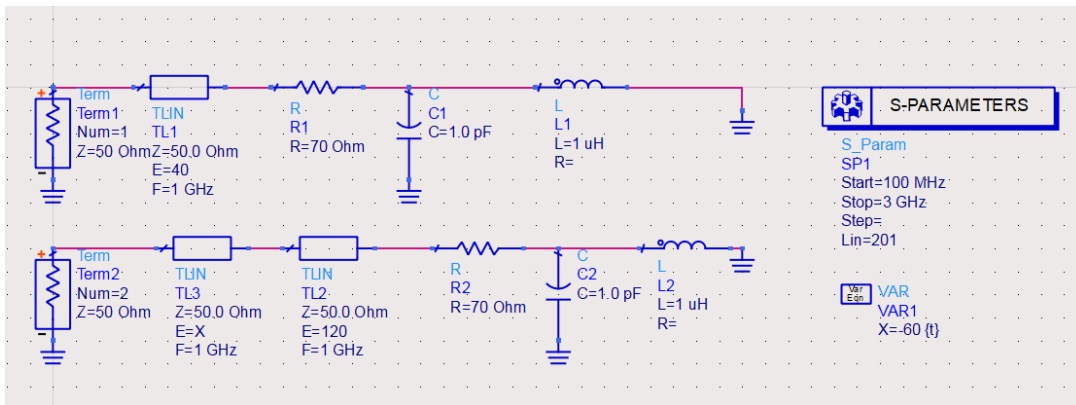

Figure 7: Pre-lab port extension exercise (negative phase delay)
3. Open a schematic window in ADS and draw the circuits shown in Figure 7. Tune the variable X (phase of TL3) to let S_{22} match with S_{11} . Plot them on the same smith chart and include the screenshot in your report. Note that the concept of negative phase is not universal among commercial softwares (e.g SPICE). What is the physical meaning of using a TL with a negative phase shift?